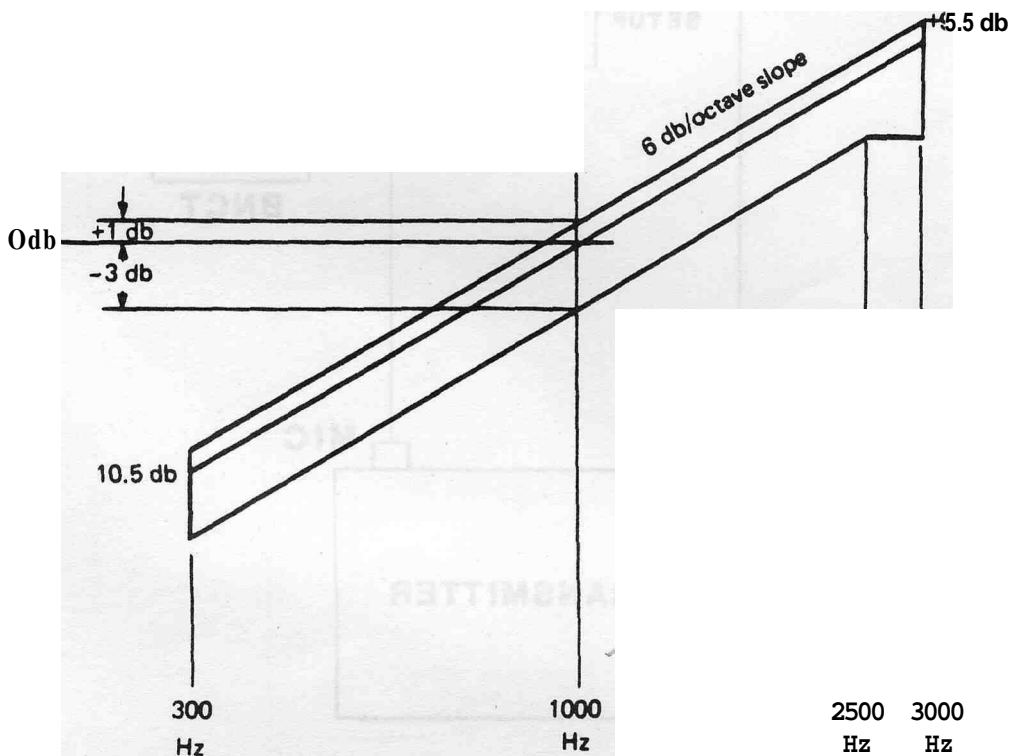

FIGURE 4-11. AUDIO FREQUENCY RESPONSE; EIA STANDARD RS-152B
7. Plot the data points obtained above in db relative to the 1 KHz Level and compare with the transmitter's specifications. EIA RS-152B specifies that a transmitter's frequency response be within +1 or -3 dB of a +6 dB per octave pre-emphasis from 300 to 3000 Hz (6 dB per octave roll-off allowed between 2500 and 3000 Hz). Refer to figure 4-11 below, Frequency Response diagram.